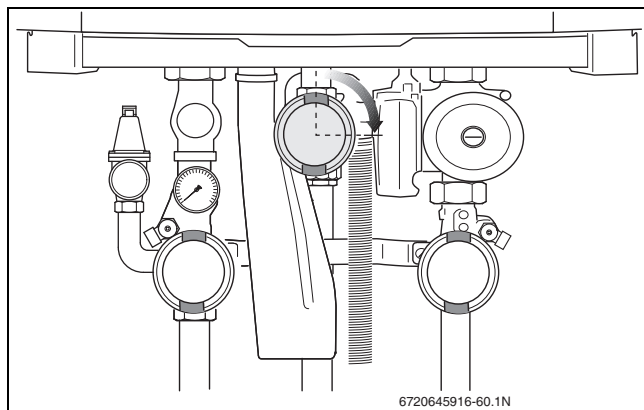

Fig. 64 Closing the gas valve
- Close the gas valve in a clockwise direction (→ fig. 64).
- Close the gas valve (→ fig. 64).
- Close the gas valve (→ fig. 64, page 34).